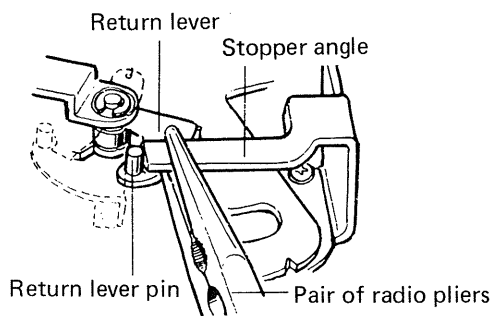

Fig. 14
1. Adjust the stopper angle so that it makes contact with the return lever pin (Fig. 14).